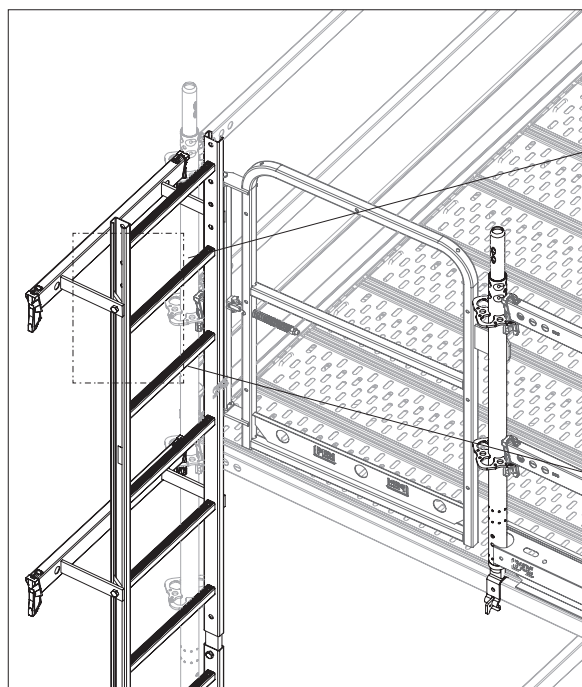

Fig. A9.12b
7. Fit a ladder connector at the top end of the ladder access in the area of the last rung. (Fig. A9.12b)